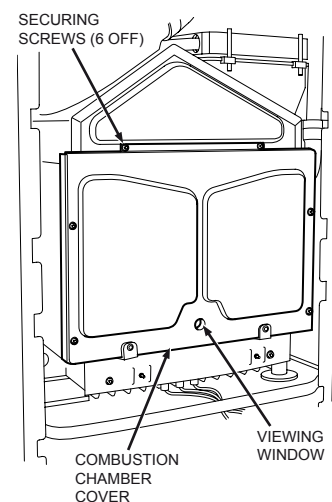

Figure 28
- 18.6** Remove the combustion chamber cover by removing four screws on sides. (*Figure 28*)